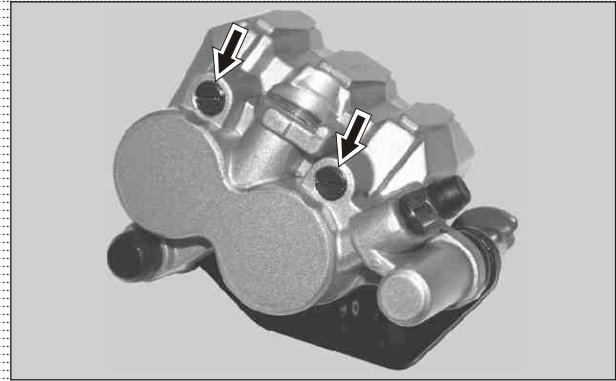

Fig. 6.15
- Remove plug pin (2 nos) from the body. (Fig. 6.15)